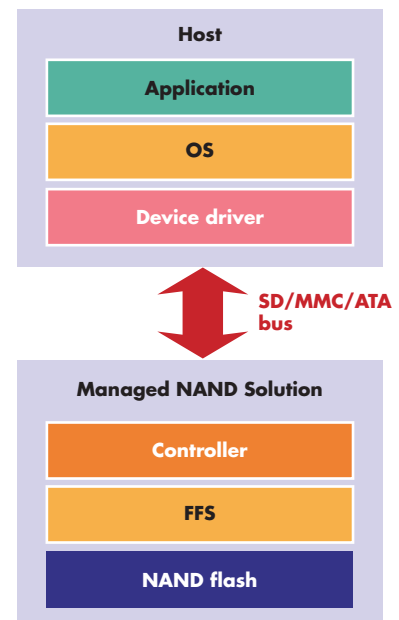

Figure 2
ers are looking at managed NAND solutions. Several vendors have come up with managed NAND memory products that alleviate the complexities of a conventional memory subsystem in embedded applications. These managed NAND memory products, including iNAND, GBNAND, moviNAND, Managed NAND, and NANDrive, are used mainly for data storage. They reduce system complexity by effectively managing the built-in NAND flash with a NAND controller and flash file system (FFS) integrated into the same device as shown in Figure 2. These products use a standard interface such as Secure Digital (SD), MultiMediaCard (MMC), or Advanced Technology Attachment (ATA) for easier integration. For example, iNAND and GBNAND offer the SD interface, moviNAND and Managed NAND offer the MMC interface, and NANDrive offers the ATA interface. These products don't offer XIP access and as a result, systems that use them may need a NOR flash for the boot function.